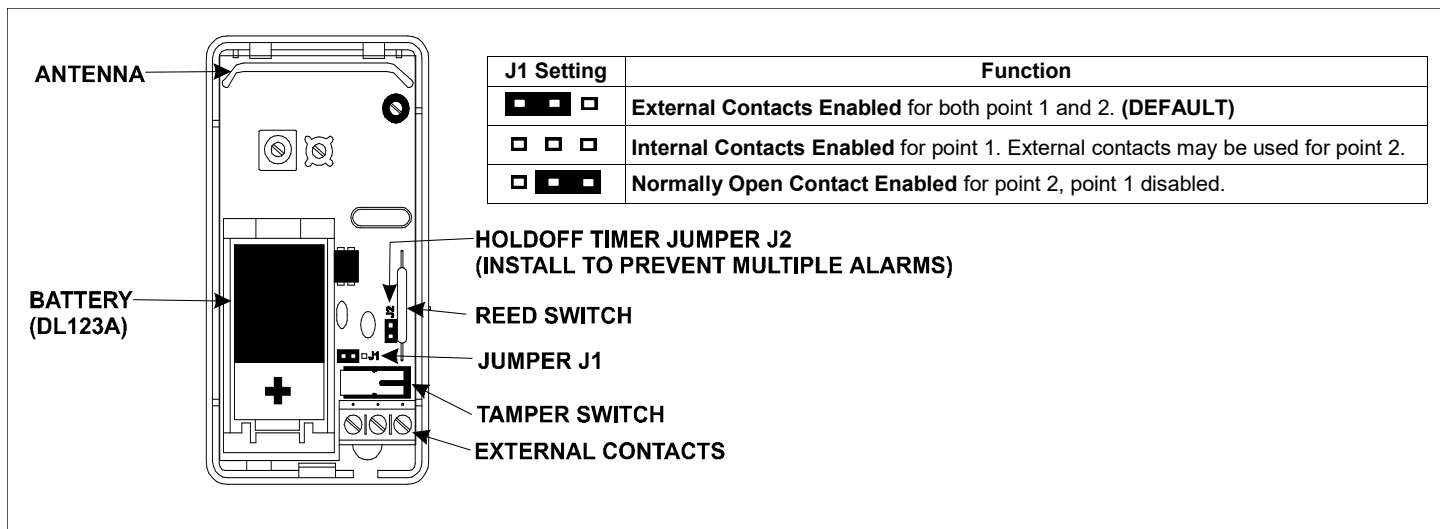

Fig. 4 Location of parts
3. **Identify transmitter parts.** Refer to Fig. 4.
9. **Complete transmitter setup.** Install jumper **J2** (see Fig. 4) to enable the holdoff timer (after triggering, unit waits 3 minutes before retriggering). For example, if used on doors in heavy traffic areas, this will prevent multiple alarms and thereby conserve battery life. **Note:** If **J2** is installed, both points will be delayed 3 minutes before retriggering. If internal reed switch is used, remove jumper **J1** (see Fig. 4) and short Point-1 (Terminals 1-2). An external contact may be connected to point 2.